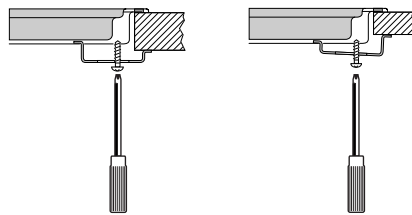

fig. 7
- Install the hob, screw the assembly clamps tight. If the unit is constructed from thin material turn the assembly clamps round (see fig. 7).